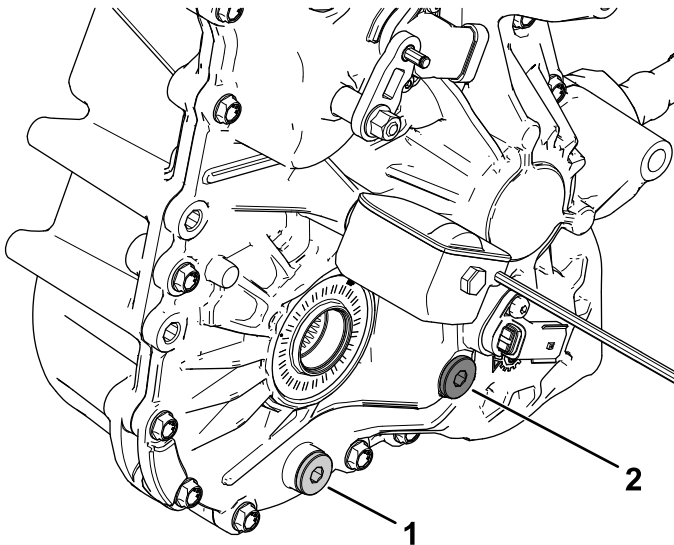

Figure 84
4. Remove the fill plug on the transaxle (Figure 84).
5. If the fluid level is low, remove the fill plug and add the specified fluid until it runs out of the hole (Figure 84).
1. Align a drain pan under the drain plug (Figure 84).
2. Remove the fill plug (Figure 84).
3. Remove the drain plug, and allow the fluid to drain completely (Figure 84).